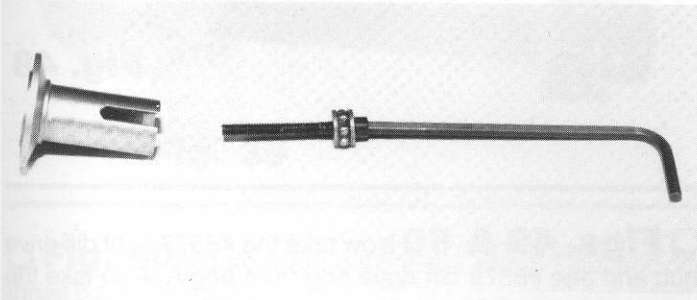

Fig. 51
□ **Fig. 51** Locate your 5/64" Allen wrench from your #6950 tool bag. Now slip the long end into the head of the #6575 diff thrust bolt. You are going to insert the whole assembly into the center of the #6577 right diff hub, as shown.